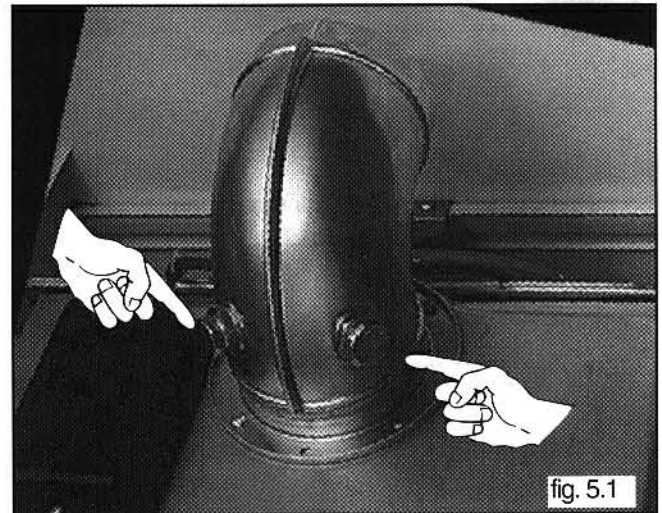

fig. 5.1
- 6 Visually check the flue system for soundness. Check all clamps, gaskets and fixings are secure and tight. To check the exhaust gas, remove the screw indicated in fig. 5.1 and connect the analyser to the flue gas sampling point.